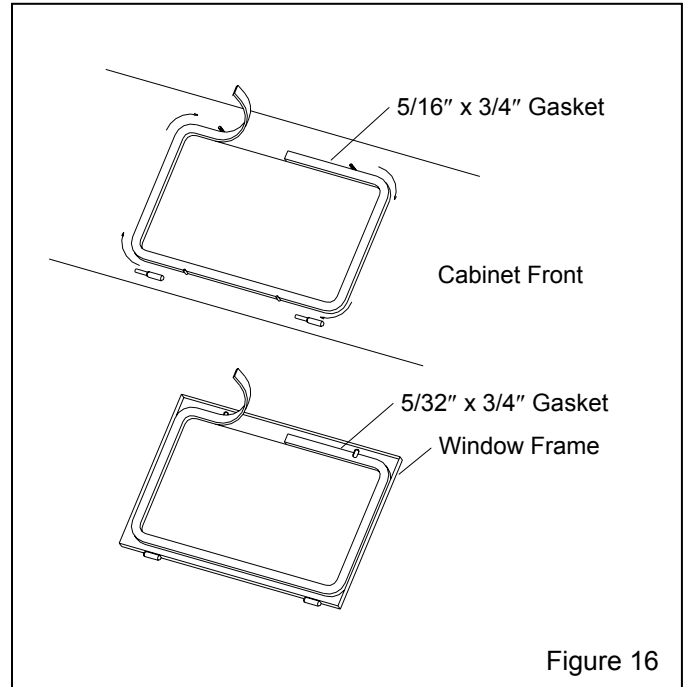

Figure 16
7.4 Window Gasket Replacement, Figure 16
7.4.4 Peel a short section of adhesive backing from the 5/16" thick strip gasket, and adhere the gasket to the center of the top edge of the window opening as shown in Figure 16. Peel additional backing as needed, and work the strip around the radius of each corner, pressing it tightly to bond. Trim the gasket to fit and compress the ends to seal.